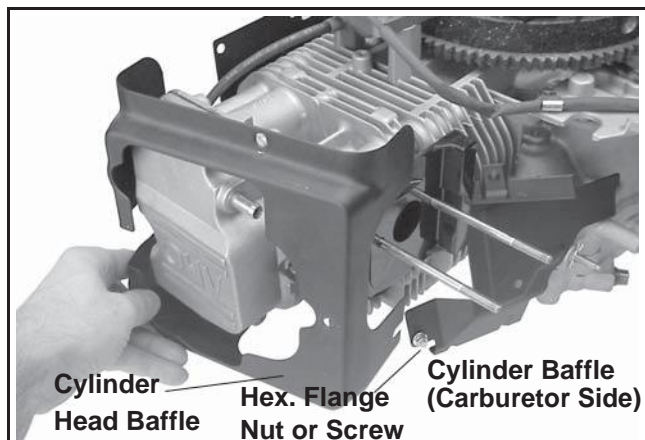

Figure 9-18. Removing Blower Housing and Baffles.
3. Remove the hex. flange nut on stud securing the carburetor side baffle,* if not removed previously during carburetor removal. Remove the screws attaching the cylinder head baffle. See Figure 9-18.